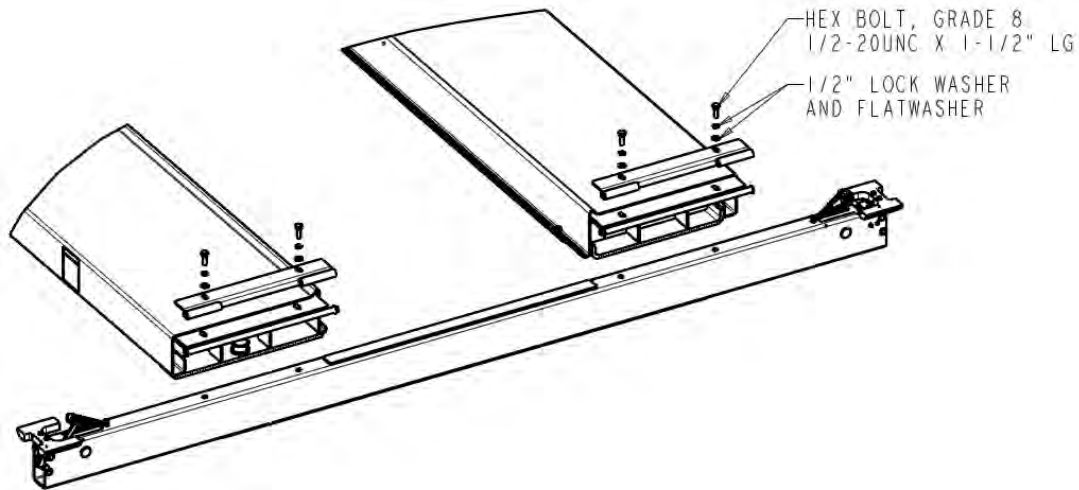

Figure 9b: Rear Crossmember Installation
8. Install the rear crossmember as above, along with the approach ramp hinge. **See Figure 9b.**